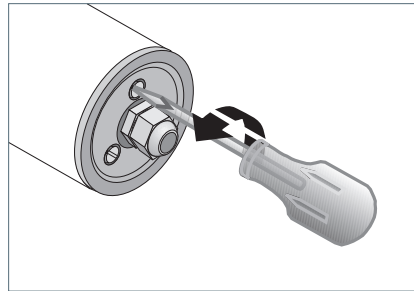

Fig. 2: Opening the side part A.
- ▶ Unscrew the three screws on the connection side by about 3 to 4 turns, see Fig. 2.